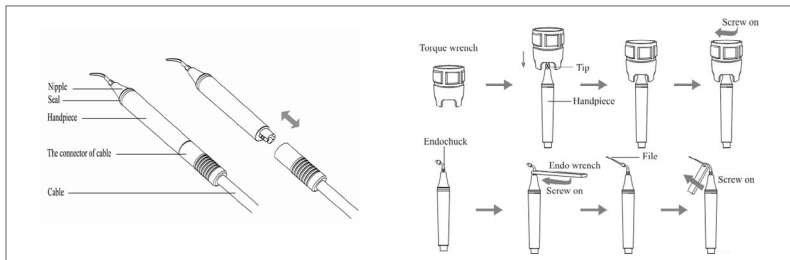

Figure 7.1
5. To connect the piezoelectric scaler handpiece to the cord, align the pins on the handpiece with the cord coupler and gently but firmly push the handpiece into the cord coupler. Do not twist, turn or unscrew the handpiece while inserting into or removing from the cord coupler. Then select the suitable scaling tip needed and screw it on the handpiece tightly by using the torque wrench (Figure 7.1)